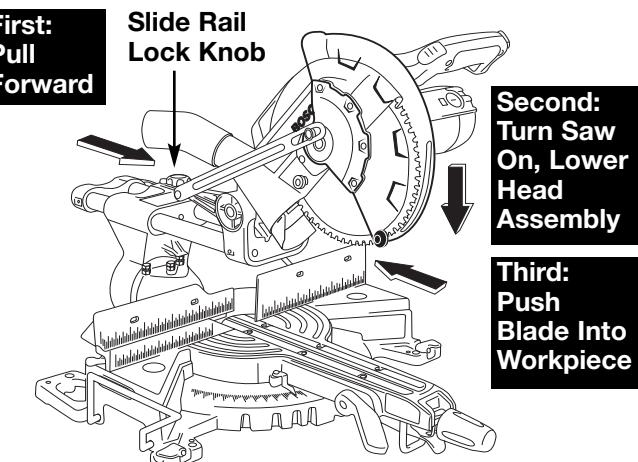

Figure 27. Slide Cut
- Loosen the slide rail lock knob (figure 27).
- Grasp the switch handle and pull the head assembly away from the fence, until the blade clears the workpiece or to its maximum extension if blade cannot clear the workpiece (Figure 27).